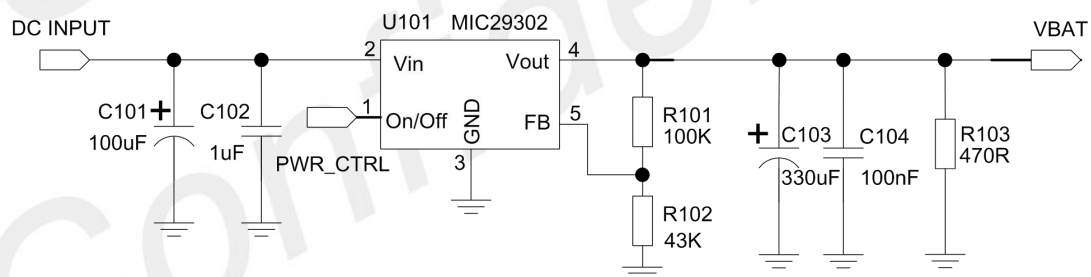

Figure 3: LDO power supply reference circuit
For non-battery applications, if the DC input voltage is +5V and users do not care about the power efficiency, a high-current low-dropout regulator is recommended. The reference design is shown in Figure 3.
1. To ensure a proper behavior of the regulator under light load, an extra minimum load (R103 in Figure 3) is required, because the current SIM8960x consumed is very small in sleep mode and power off mode. For more details about minimum load, please refer to specification of MIC29302.